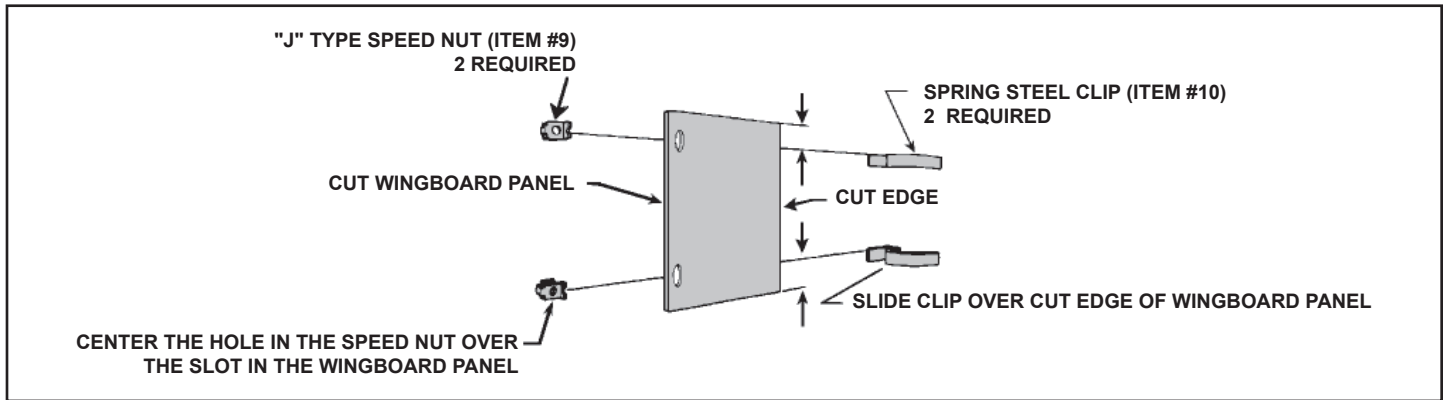

Figure C.5.6
Step 8. ASSEMBLE CLIPS TO WINGBOARD PANELS: Assemble "J" type speed nuts (Item #9) and spring steel clips (Item #10) to the edges of the cut wingboard panels (See Figure C.5.6).